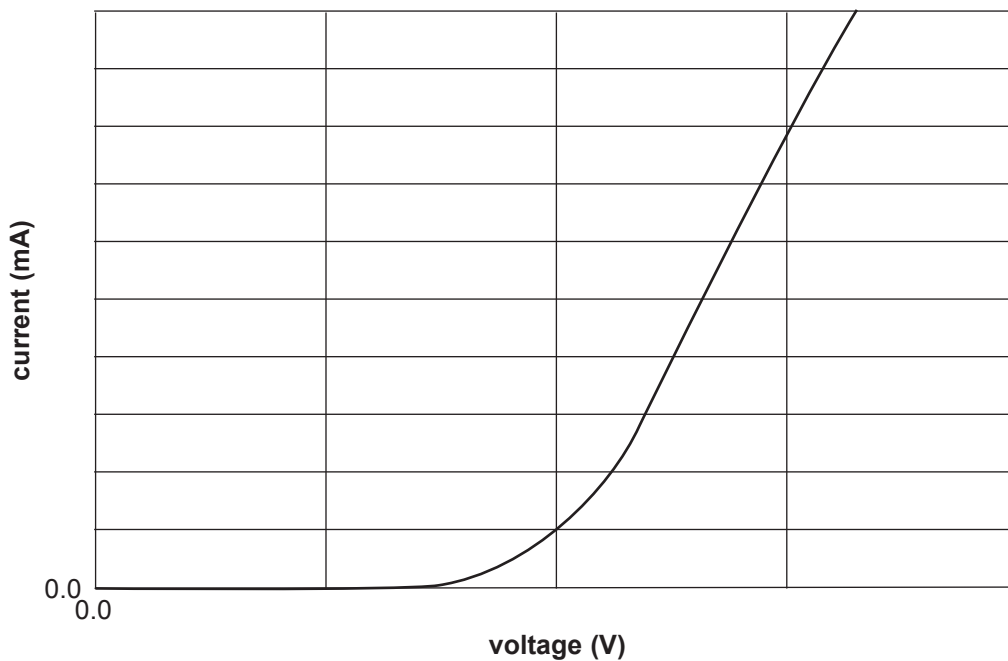

Fig. 4.1
- (b) The current–voltage characteristic for an LED of this type is shown in Fig. 4.1.